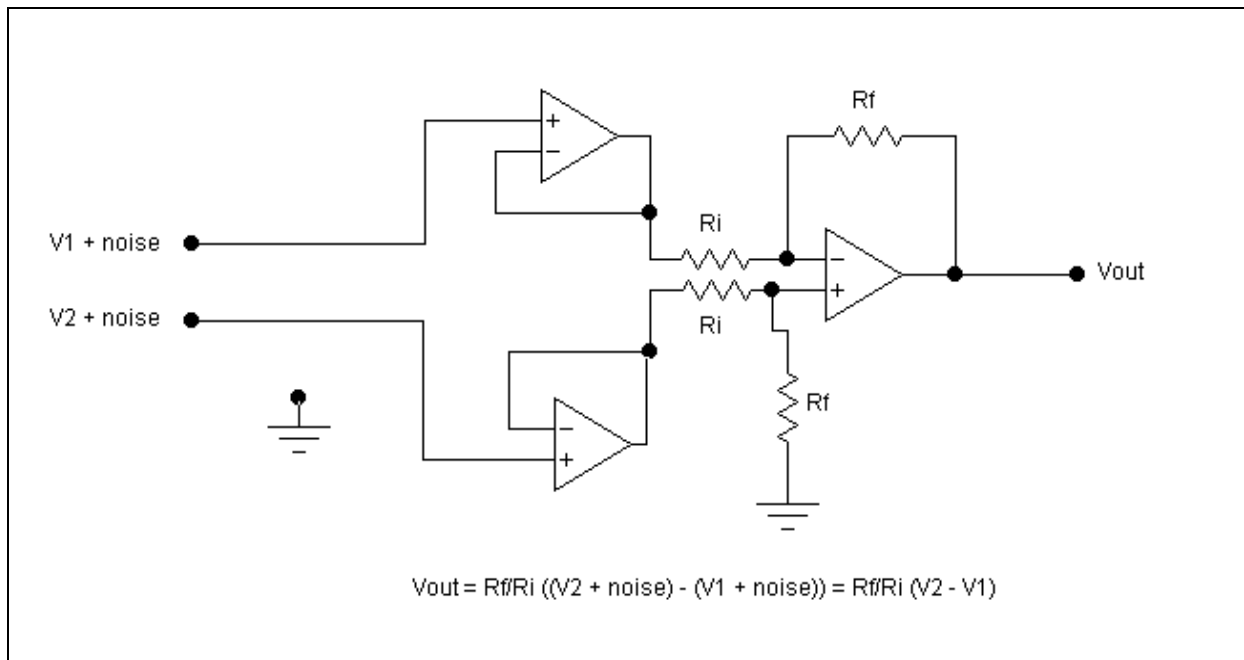

Figure 1. Differential input amplifier showing noise cancellation on the input.
3. Differential (Balanced) Inputs. The use of differential inputs reduces noise by subtracting the currents or voltages that have been equally induced into the lead wires (common mode rejection or CMR), leaving only the signal to be amplified (see Figure 1).